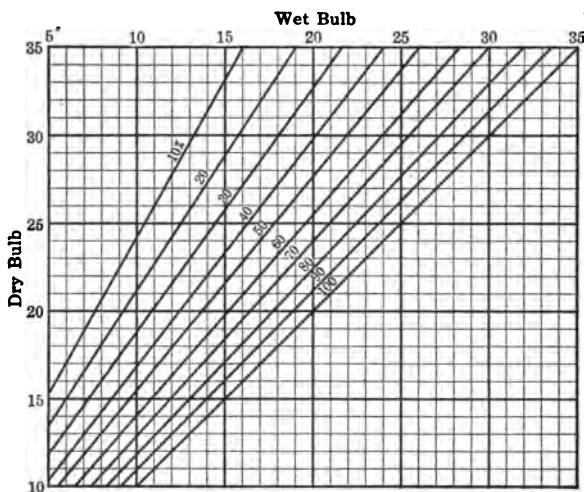

FIG. 23
3. The relative humidity of the room can be obtained from the results in 1. The change in temperature on the wet-bulb thermometer depends upon the moisture present in the air. Tables have been devised which will give the relative humidity direct, with no calculation. Find the value for your readings from the graph in figure 23.